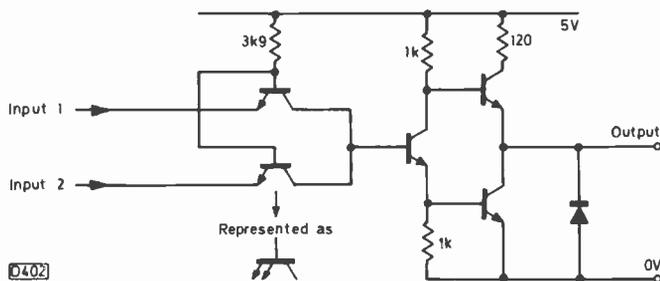

Fig. 38: Two-input TTL nand gate.
**TTL:** Stands for Transistor Transistor Logic, and is the packhorse of digital logic. The circuit of a typical TTL gate is shown in Fig. 38. Note the *totem-pole* output. TTL runs on a 5V rail and is virtually bullet proof. The commonest TTL series is the 74 series, whose codes all start 74xxx (e.g. 7420).